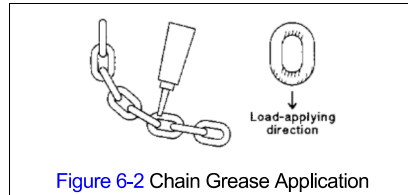

Figure 6-2 Chain Grease Application
- Apply Harrington lubricating grease (Part No. ER1BS1951) or an equivalent to industrial general lithium grease, NLGI No. 0, to the bearing surfaces of the load chain links as indicated by the shaded areas in Figure 6-2. Also apply the grease to the areas of the load chain (shaded areas in Figure 6-2) that contact the load sheave. Insure that the grease is applied to the contact areas in the load sheave pockets.